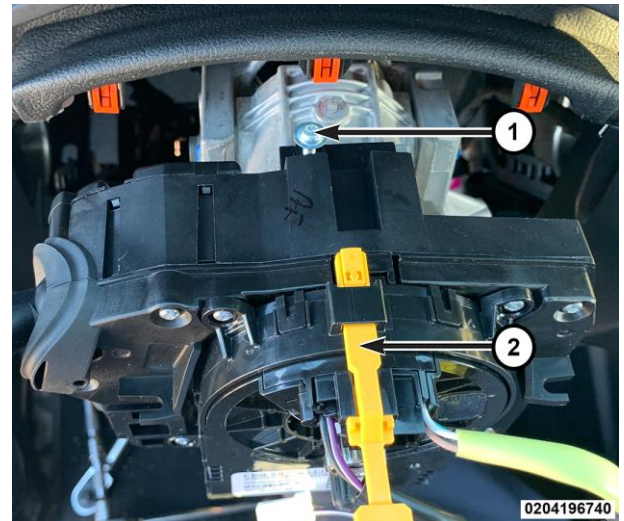

Figure 27 – SCCM
23. Remove the screws (1) (Figure 27 and 28).
4. Install and securely tighten the SCCM screws (1) (Figure 27 and 28).